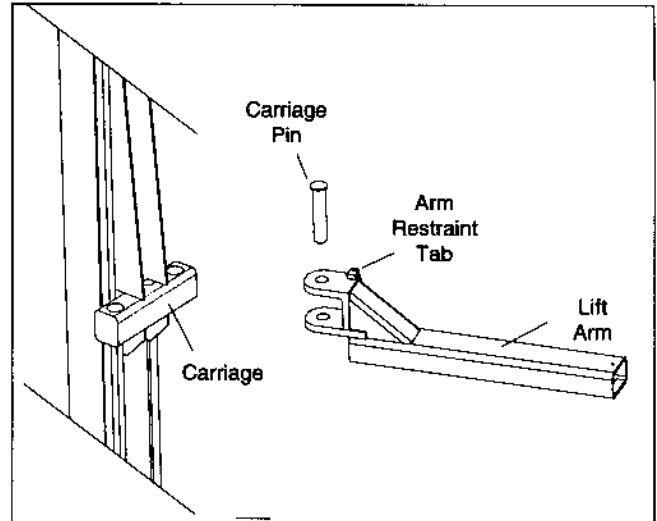

Figure 14 - Lift Arm Installation
1. Place the lift arms on the carriages. Insert a carriage pin through each lift arm and carriage. See Figure 14.